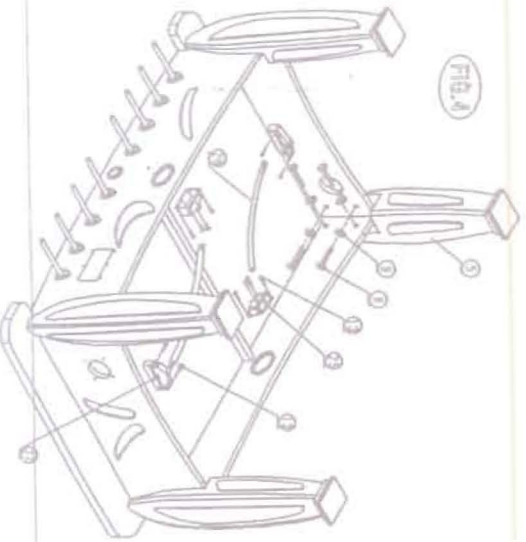

FIG. 5.
15) Attach the one Controller (#32) to the Side Apron using six of Flat Head Screws (#18). See FIG. 5 and 5A.
- 16) Attach the two Loudspeakers (#31) to the Side Apron using four of Round Head Screws (#12) per Loudspeaker. See FIG. 5 and 6A.